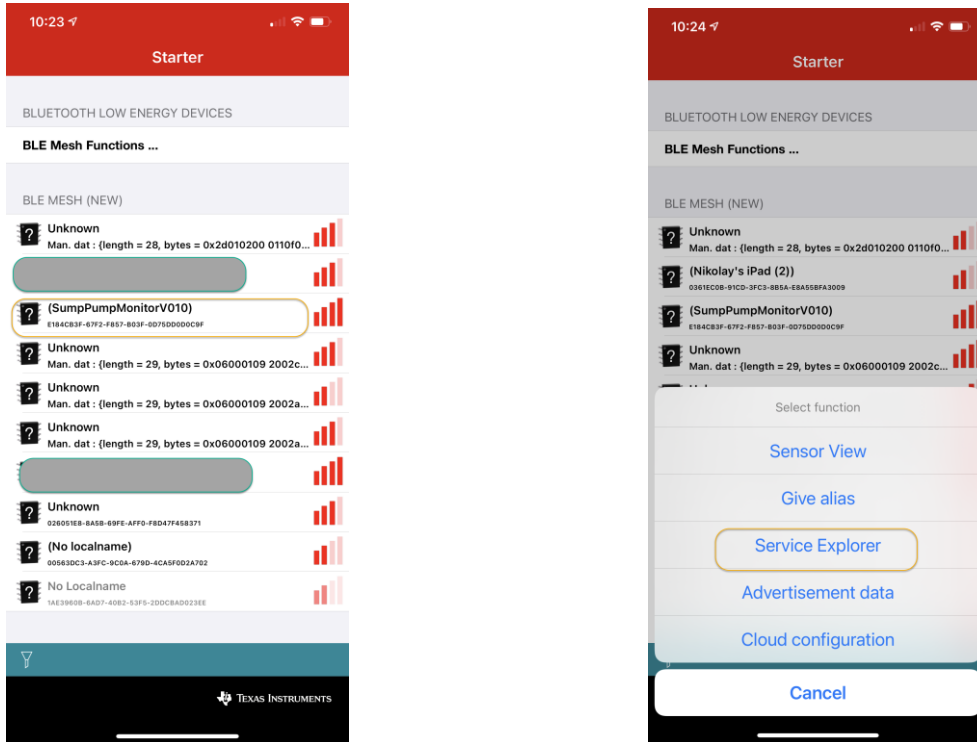
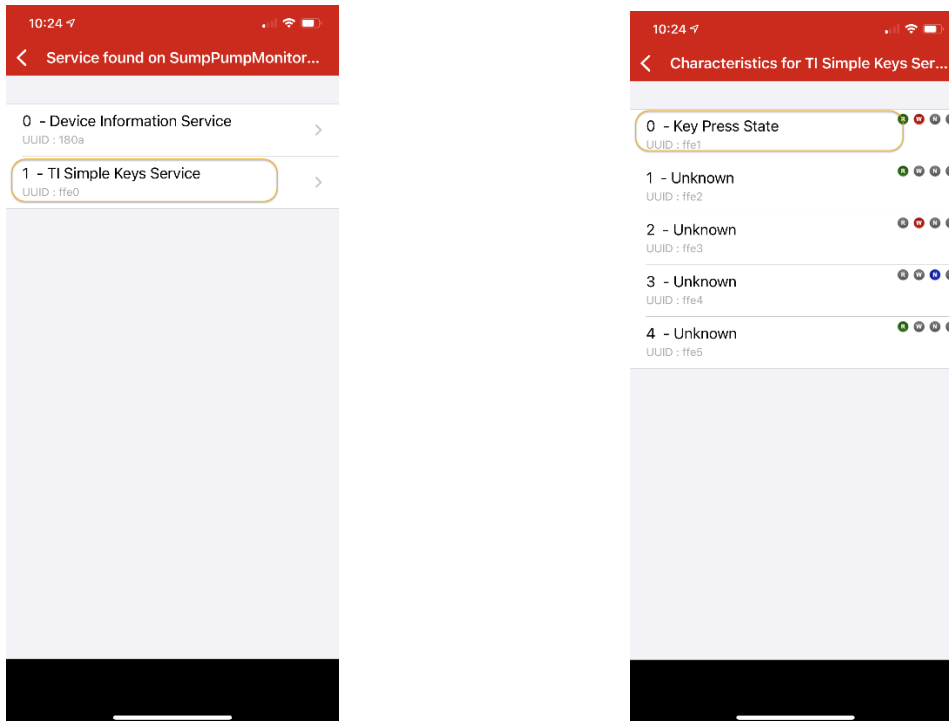

Figure 3 List of devices and Services
Figure 4 Services
3. Find SPM-010 device in list of scannable Bluetooth devices (see Figure 3) and click on it. Use **Service Explorer** to rich Services. The follow services will be accessible (see Figure 4**Error! Reference source not found.**). Choose "1 - TI Simple Key Service" and then "0 - Key Press State".